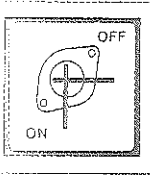

Figure 4- Fuel valve positions
3. Turn the fuel valve to the “on” position (see figure 4).